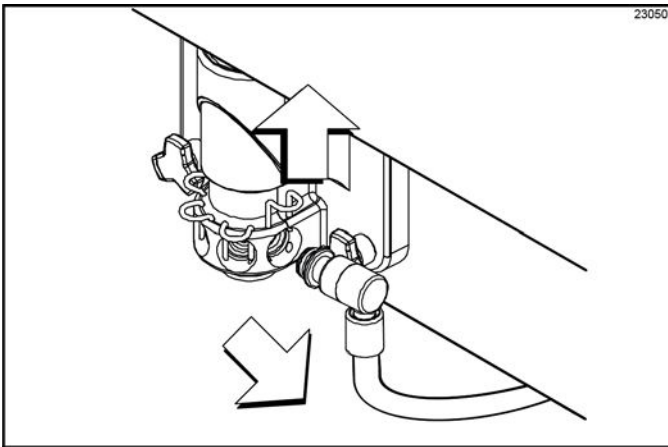

Figure 6-62
11. Remove the syrup lines from the freezer door. (See Figure 6-62.)